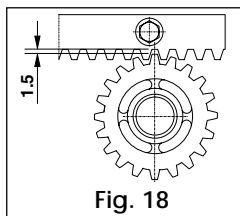

Fig. 18
- After installing the rack, lower the position of the gear motor by adjusting the feet (Fig. 18) by about 1.5 mm to ensure correct meshing with the pinion.